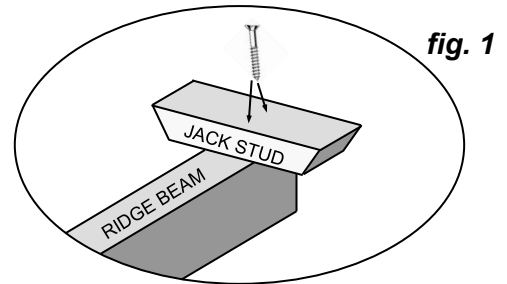

fig. 1
- Place the Ridge Beam on a level surface and use 2 x 75mm screws to secure the Jack Studs to the underside of the Ridge Beam, one at each end (**fig. 1**).